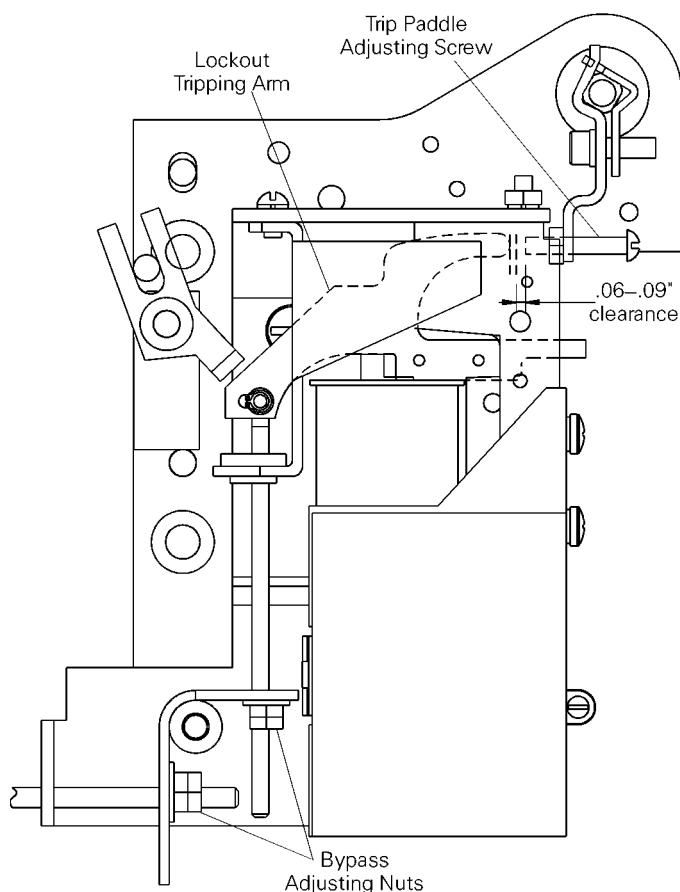

Figure 8-17. Side view of the installed electric lockout.
4. The adjusting screw in the trip paddle must line up with the electric lockout tripping arm. Figure 8-17 shows the installed electric lockout in side view. If necessary, adjust the position of the trip paddle so that it is properly aligned.
- a. Adjust the lock nuts on the bypass linkage and actuator rods, as shown in Figure 8-17, to obtain maximum travel of the lockout tripping arm.